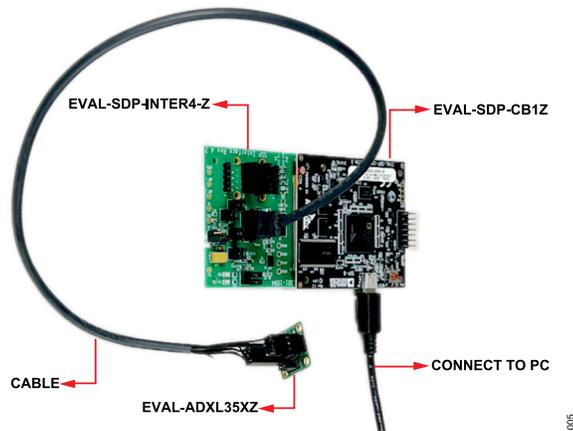

Figure 1. Required Hardware Components
Figure 1 shows the required hardware components. The EVAL-SDP-CB1Z is a system demonstration platform (SDP) controller board that provides a means of communication with the sensor from the PC. The EVAL-SDP-INTER4-Z is an SDP interface board that serves as an interposer between the SDP controller board and the evaluation board. The EVAL-ADXL35xZ is the DUT breakout board.
3. Connect one end of the mini-B USB cable to the SDP-B controller board, and plug the other end of the cable into the PC. Figure 1 shows an overview of the complete setup and connections.